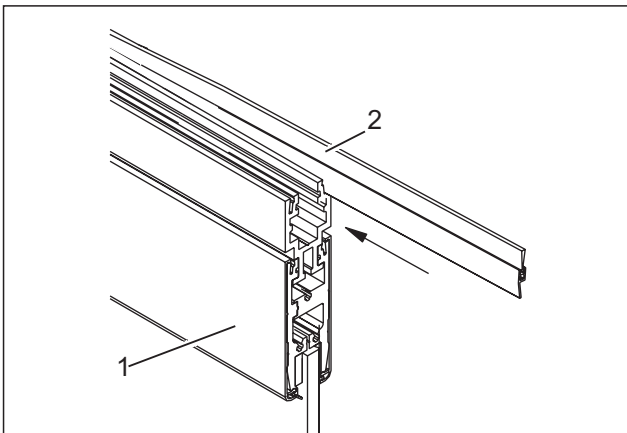

Fig. 36 Inserting the brush seal
5. Insert the new brush seal (Fig. 36/2) into the door rail (Fig. 36/1).